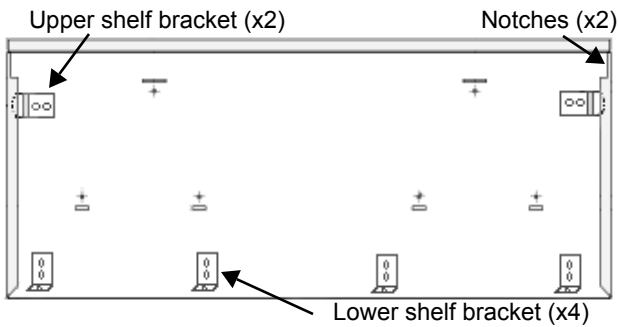

Figure 15: 48" Back of Wall Plate
- Mount the (2) top shelf brackets and the (3) lower shelf brackets at the locations outlined on the templates. Secure with (10) 1" (25.4mm) screws provided.
- Insert (3) U-Nuts onto the (3) lower shelf brackets.
- Install the wall plate by setting the corner notches (back of wall plate) atop the (2) top shelf brackets. Slide the shelf upwards until the bottom engages with the (3) lower brackets on the 30" & 36" models and (4) brackets for the 48" models (*Figure 15*).